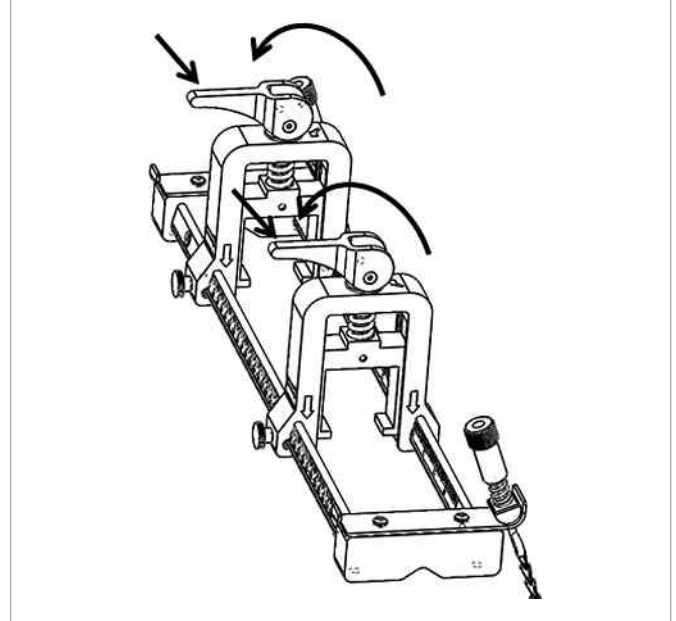

Figure 22: Released cams
7. Release the cams on both transducer clamps so that the transducers are pushed towards the pipe to ensure that the couplant completely fills the gaps between the transducer faces and the pipe surface (see *Figure 22* below).